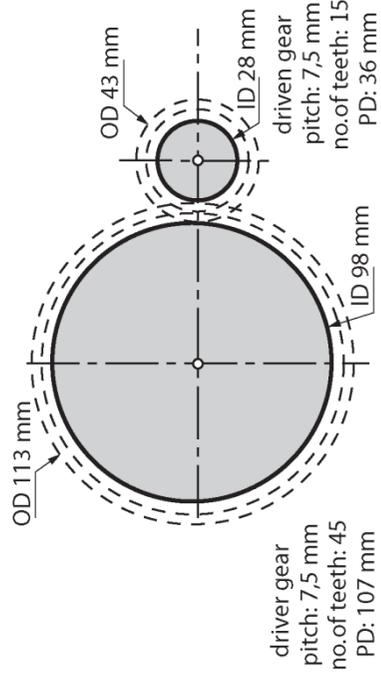

Figure 11: (This drawing is not drawn to scale.)
1. Draw the gear system shown in Figure 11, to a scale of 1:1. The driver gear has 45 teeth and a pitch circle diameter of 107 mm. The driven gear has 15 teeth and a pitch circle diameter of 36 mm. Draw your gear system on grid paper.
Learners' drawings should look like Figure 11.